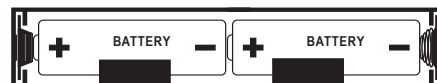

Figure 3.6
2. There are two **AA ALKALINE ONLY** batteries already installed into the thermostat; to activate, remove black plastic tab that is located inside the battery compartment. See Figure 3.6.